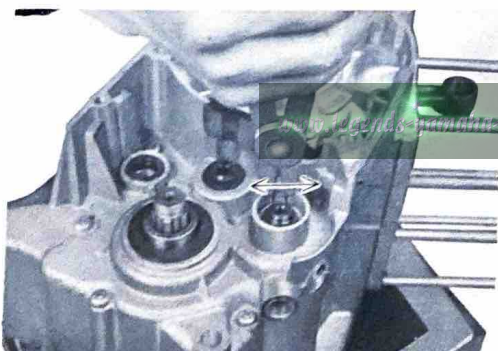

Fig. 4-16-3
- 1) Remove the circlip, holder, and washer from the gear shift drum on the left side of the engine. (Figs. 4-16-3 and 4)